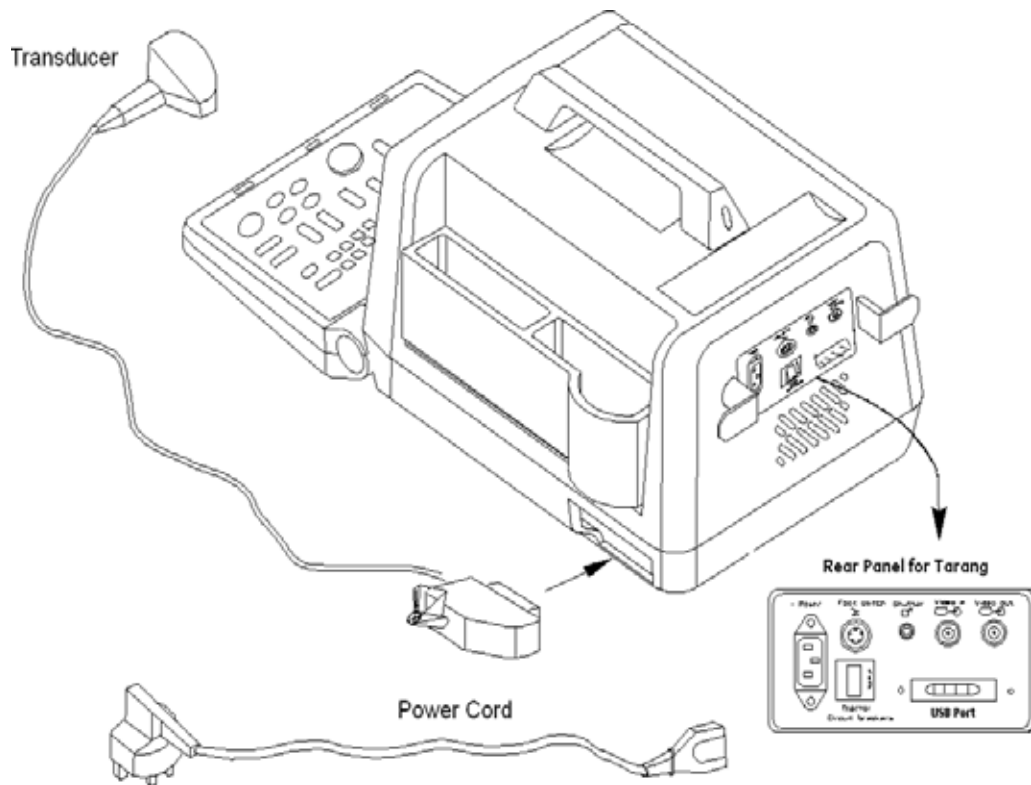

Figure 3-4 Assembling LOGIQ™ 100 PRO
- 3.) Secure the probe to the receptacle as follows. Refer to Fig 3-4
- 1.) Connect a transducer to transducer receptacle as follows, Refer to fig 3-4